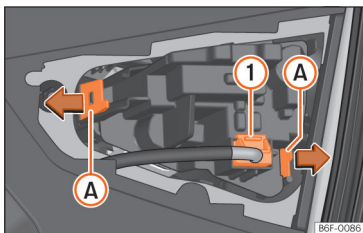

Fig. 173 Remove the bulb holder.
- Remove the bulb connector >>> Fig. 173 ①.